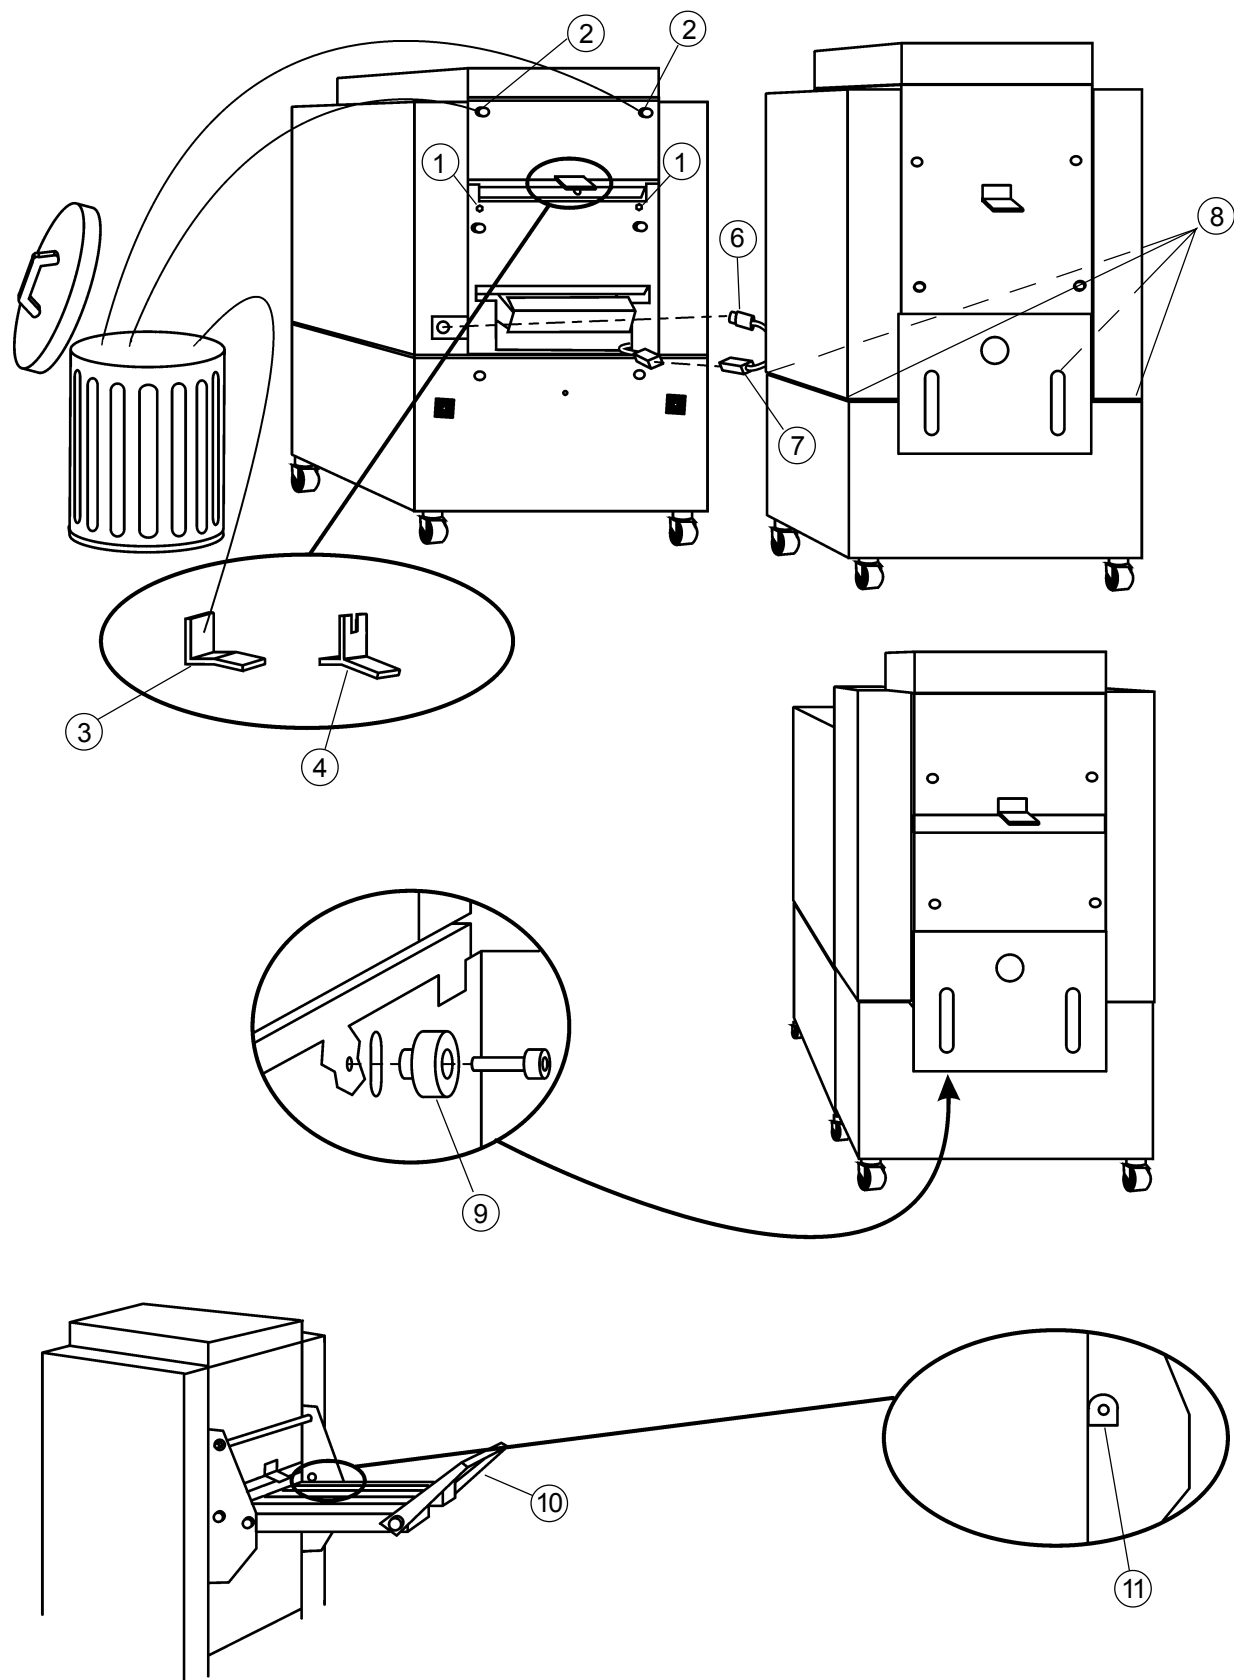

Figure 17
1. Remove the two 8 mm screws (1), figure 17, which secures the Beltstacker.
2. Remove the Beltstacker(10), figure 17.
3. Remove the two black positioning pins for the Beltstacker (2) from the Bookletmaker, figure 17.
4. Take the two screws with the 20 mm washers, install them in the holes where you removed the two black positioning pins (2), figure 17.
5. Remove the old exit guide bracket (3) from the Bookletmaker. Make sure to cut the cable tie on the old exit guide bracket. Replace it with the new one (4), figure 17.
6. Move the Trimmer up to the Bookletmaker connect the communication cable (6) and the power cord (7), figure 17. Adjust the height on the Trimmer by turning the four nuts (8), figure 17. So that the two black positioning pins fits in the holes on the Trimmer. Lower the Trimmer so that the Trimmer just hangs on the two positioning pins. Make sure the cable not interferes with the fold pocket.
7. Take the allen screw and the plastic distance and attach it to the Trimmer and the Bookletmaker (9), figure 17.
8. Take the stacker and install it on the Trimmer (10), turn the two stacker height brackets (11) a half turn so that the stacker is in the up position, figure 17.
9. Secure the Beltstacker with the screws (1), you removed in step 2, figure 17.